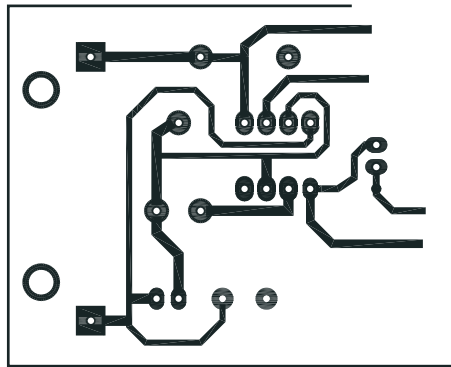

Fig. 10
- 4 (a) PCB layouts are often designed using CAD software. Part of a layout is shown in Fig. 10.